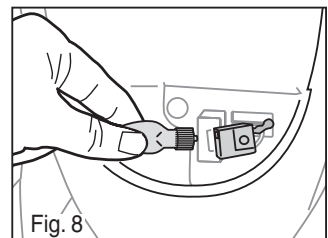

Fig. 8
- 3) Push in new bulb (Fig. 8). Replace lens cover and replace screw.